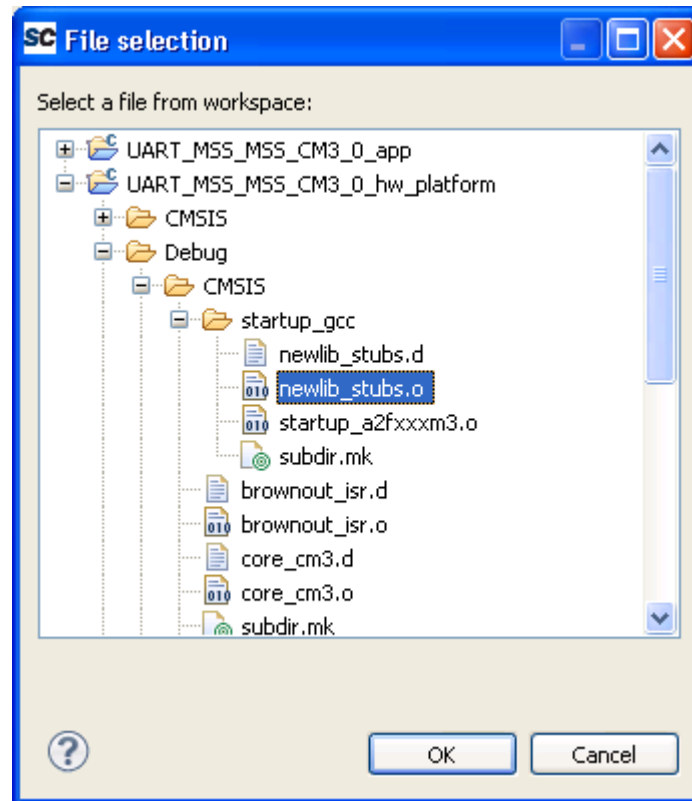

Figure 32 · File Selection Window
- Click **Workspace** and select **newlib_stubs.o** file as shown in Figure 32. Click **OK**.